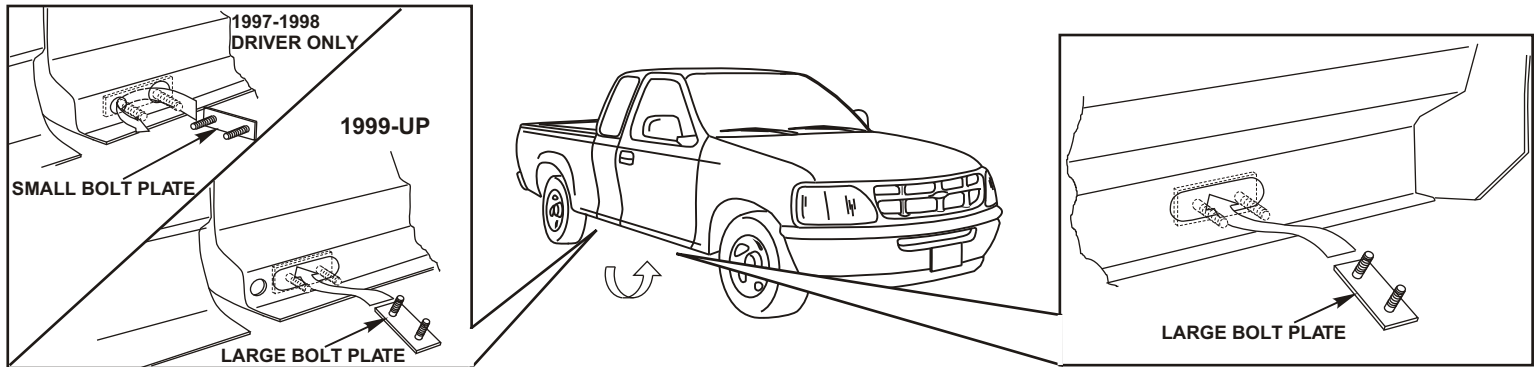

FIGURE 2 - PASSENGER SIDE SHOWN, DRIVER SIDE OPPOSITE
- STEP 3.** Install front mounting brackets by placing bolt plate (large) through hole in body as shown (See Figure 2). Position front bracket with downward sloping end towards front of truck. Assemble with 3/8" flat washers, lock washers and hex nuts. (See Figure 3). Leave loose.
- STEP 4.** Install rear mounting brackets by placing bolt plate (large) through hole in body as shown (See Figure 2). Assemble with 3/8" flat washers, lock washers and hex nuts. (See Figure 3). Leave loose.